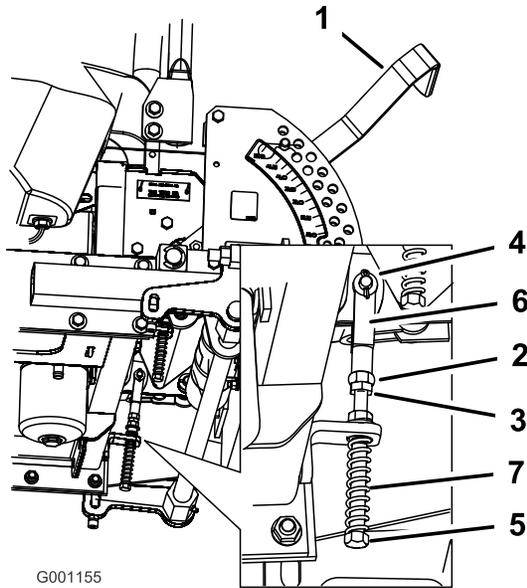

Figure 96
8. If adjustment is needed, loosen the nut and jam nut against the yoke (Figure 96).
- Apply slight rearward pressure on the motion-control lever, turn the head of the adjustment bolt in the appropriate direction until the control lever is centered in the NEUTRAL-LOCK position (Figure 96).
- Tighten the nut and jam nut (Figure 96).